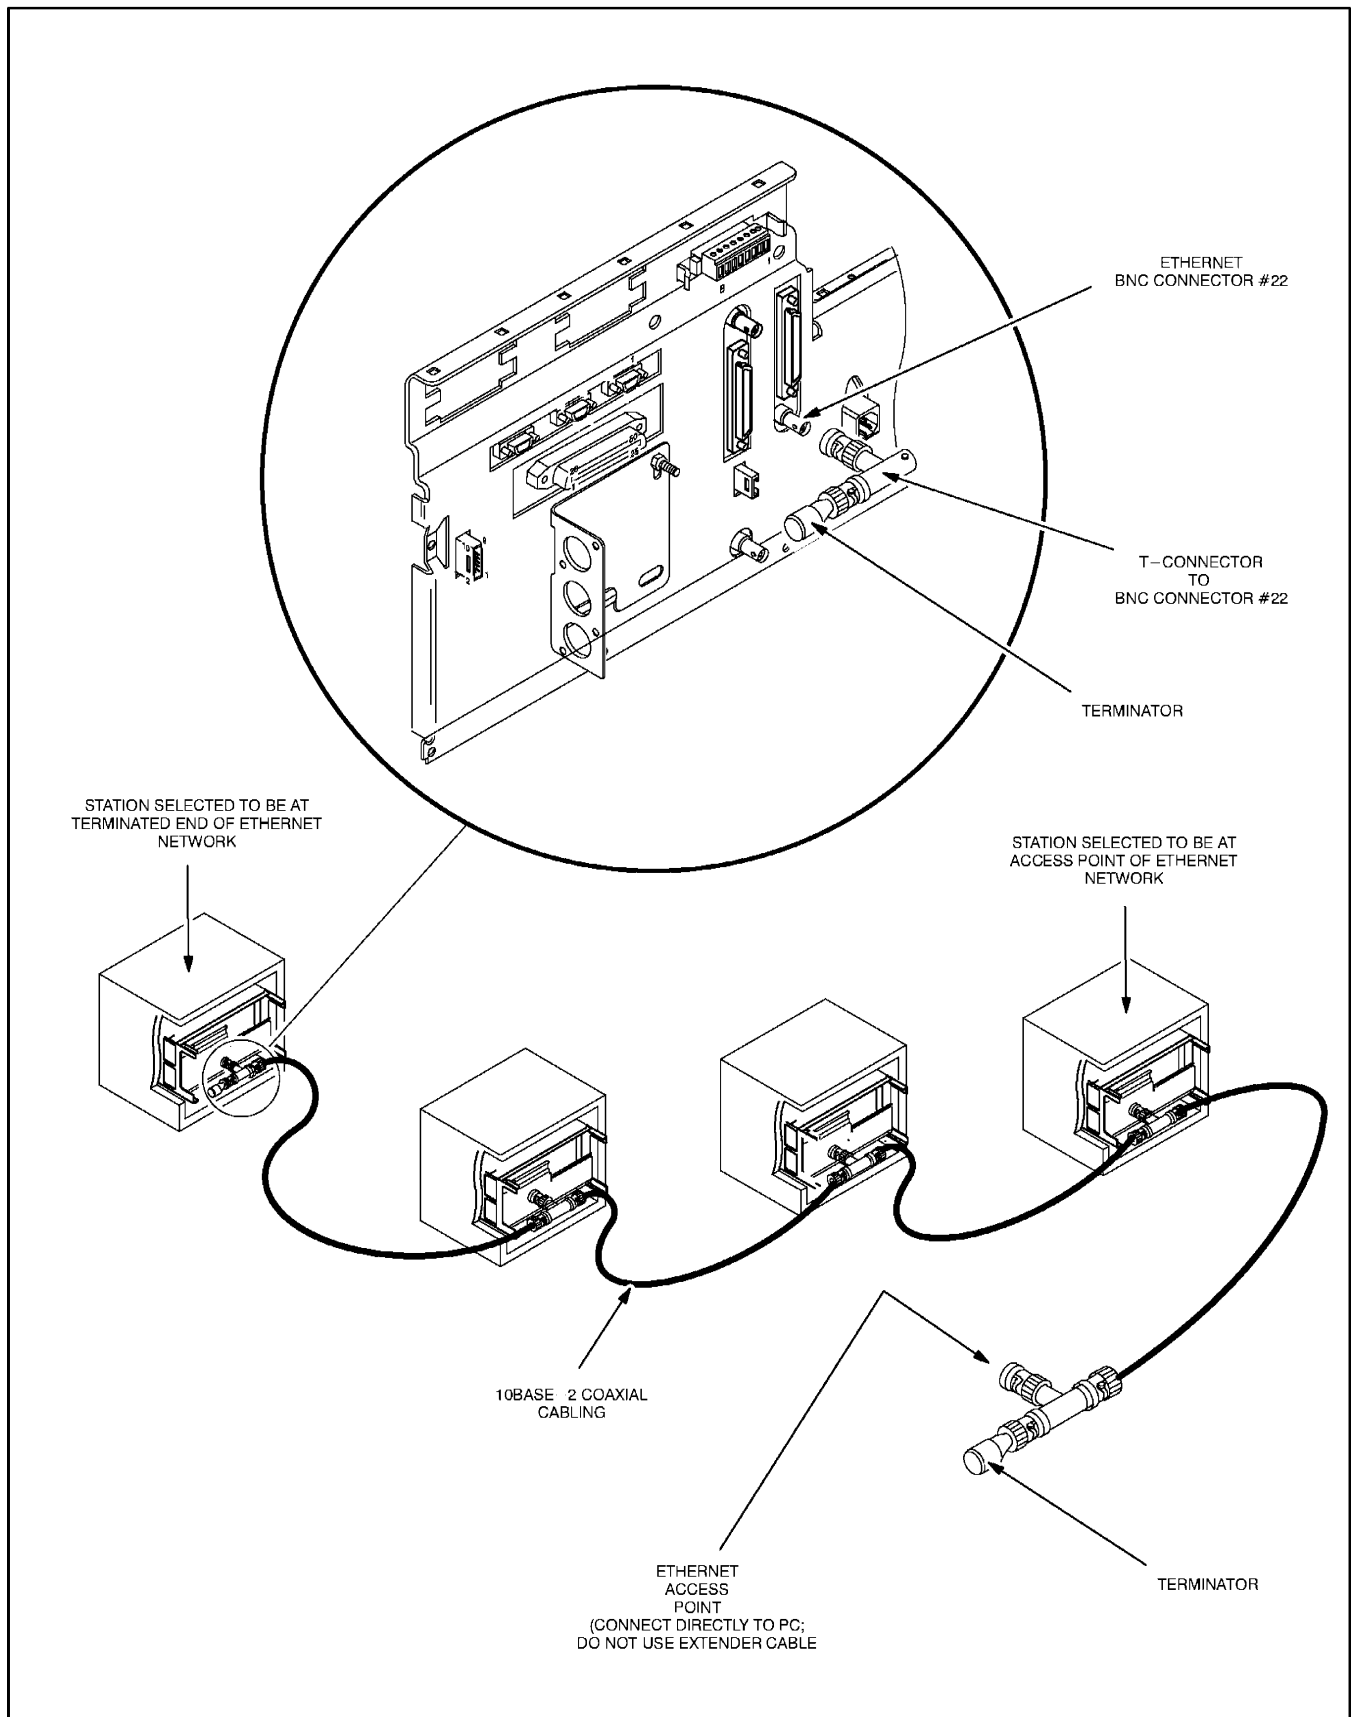

Figure 22. IntelliRepeater Trunking Site Ethernet Network Cabling Detail
- Step 3.** Place a terminator on one end of the T-connector on the station selected to be at the terminated end of the network, as shown in Figure 22.
- Step 4.** Using the supplied 10BASE-2 coaxial cables, connect the stations together in a "daisy chain" fashion, as shown in Figure 22.